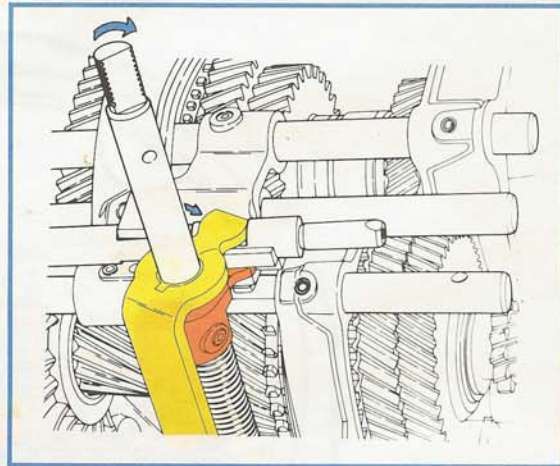

Figure 1-40, Reverse Shift Rail Movement.
- The shift shaft internal shift lever pushes the reverse shift rail to the left, using the shift gate as its notched lever (Figure 1-40).